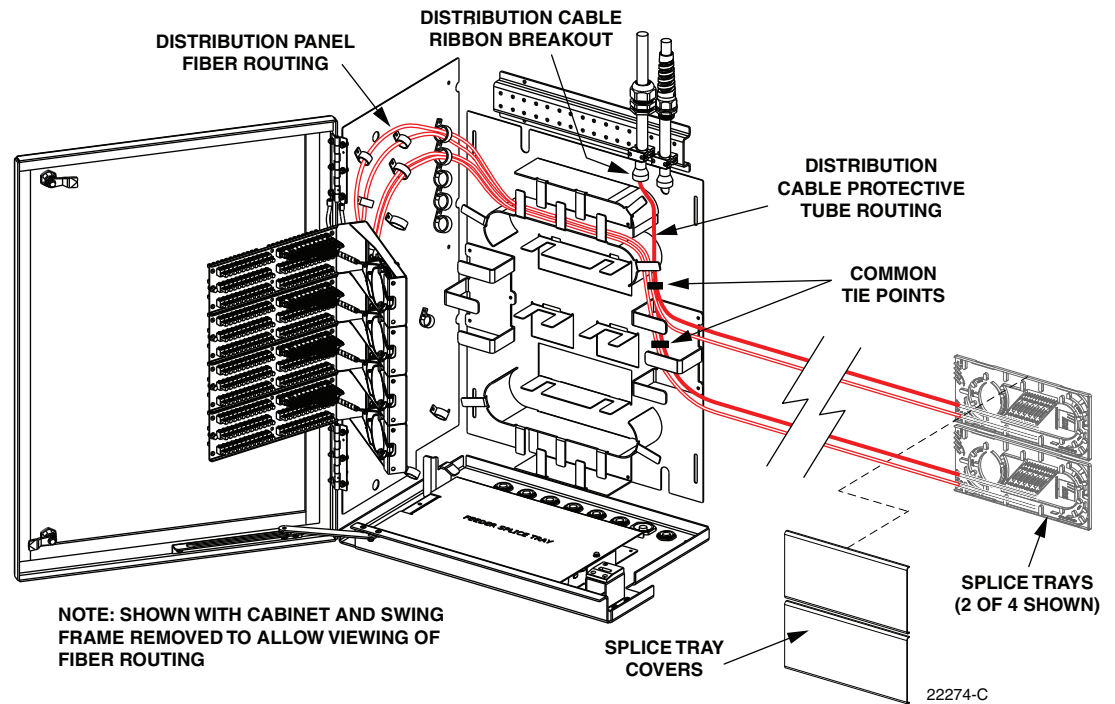

Figure 34. Distribution Fiber Routing – Ribbon Cable
4. Beginning at the distribution cable ribbon breakout point shown in Figure 34, route the protective tube or ribbon subunit to the intersect point with the distribution panel fibers.